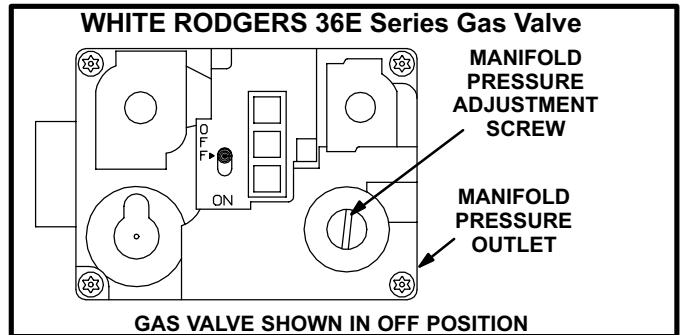

FIGURE 23
Gas Valve Operation (Figures 23 and 24)
- 6 - *White Rodgers 36E Gas Valve* - Switch gas valve lever to **OFF**. See figure 23.
- 2 - After the line pressure has been checked and adjusted, check the regulator pressure. Manifold pressures are given in table 11. See figures 23 and 24 for manifold pressure adjustment screw location.